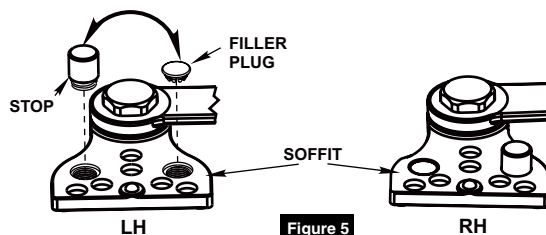

Figure 5
4. A4 & A5 Backstop Arms Only Arms shipped for Left Hand Door. To change handing: (Figure 5)